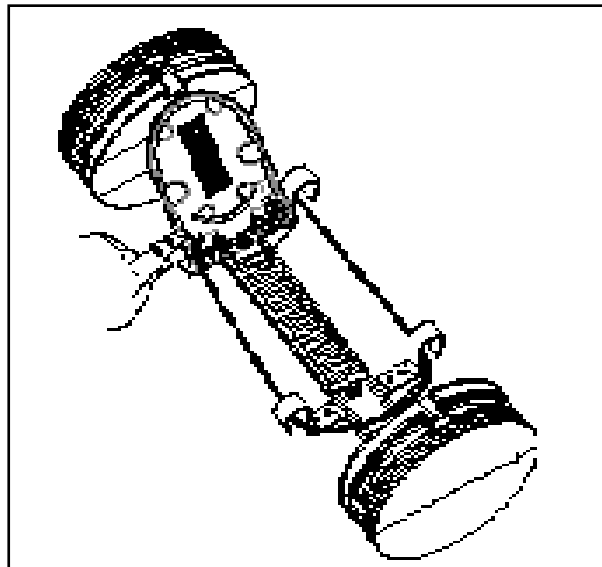

FIGURE 25 - MARK THE BUFFER TUBES
12.03 Position the back splice tray on the Splice Tray Rack and route the buffer tubes into the LEFT corner of the splice tray. Mark the buffer tubes just beyond the tie down holes. (Figure 25)